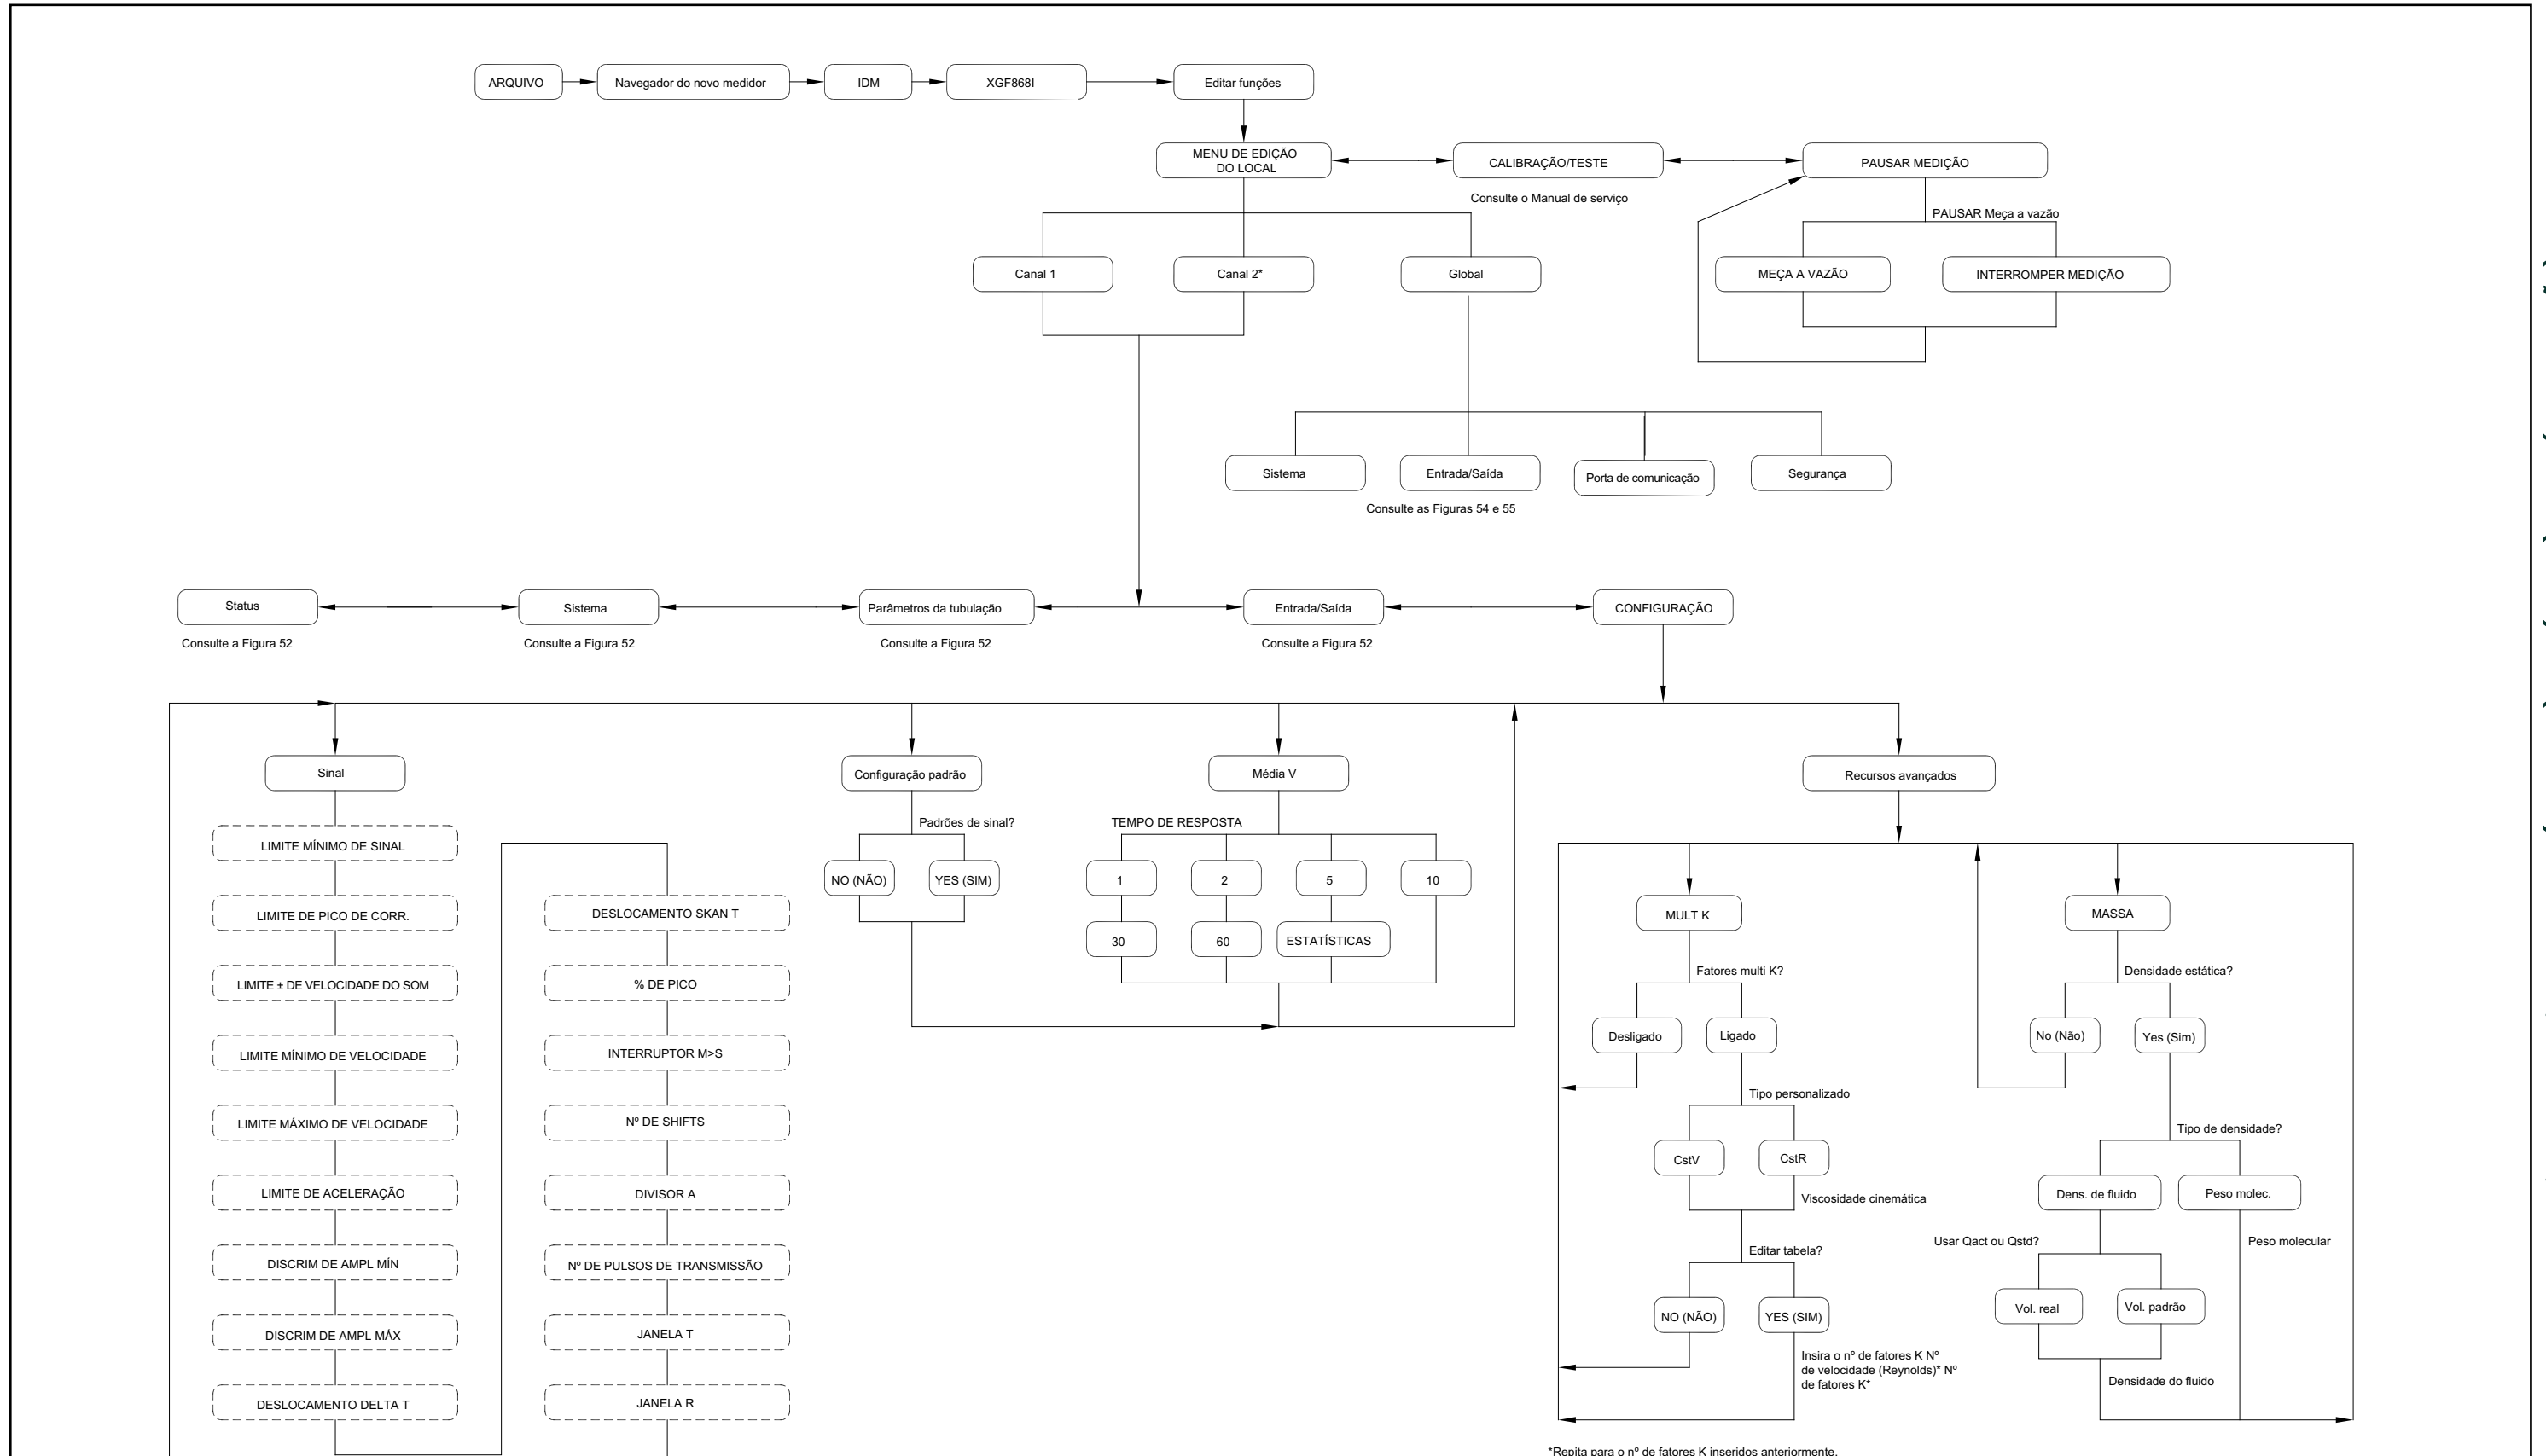

Figura 56: PanaView - Menu PROG (PROGRAMA) > CHX (Canal X) > SETUP (CONFIGURAÇÃO)
- Figura 56, "PanaView - Menu PROG (PROGRAMA) > CHx (Canal x) > SETUP (CONFIGURAÇÃO)", na página 114